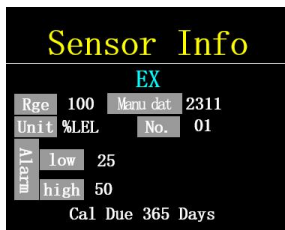

Figure 9
- After the pump test OK, it will display the information of each sensor, as shown in Figure 9:
Press the  or  key, the display will switch between the normal interface (Figure 14) and the sensor information interface (Figure 9).